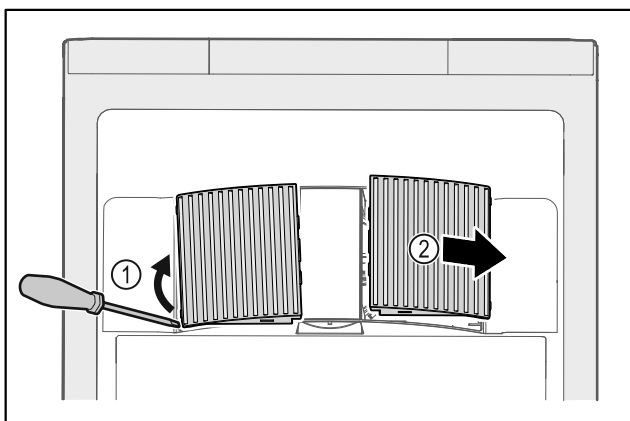

Fig. 152
- ▶ Carefully lever out fan covers from the side Fig. 152 (1) and remove towards the front Fig. 152 (2).